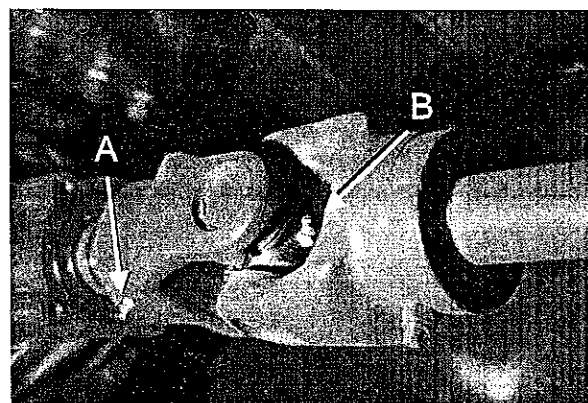

Figure 25. Grease Zerks for the Splined Yoke.
**Splined Yoke** - The splined yoke is attached to the input shaft of the right-angled gearbox (under the machine as shown in Figure 25). Grease the yoke splines (Figure 25-A) every 50 hours with SAE multi-purpose grease. Grease the yoke (Figure 25-B) every 20 to 25 hours.